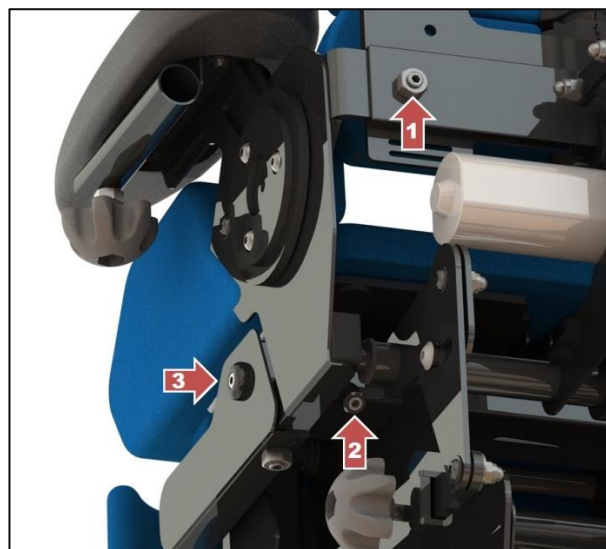

Fig. 2 Adjusting the width
The width of the seat can be adjusted using the knob (3) marked with a red arrow (fig. 2). The knobs are located on the right and left sides of the device. Their effect is independent of each other. This enables symmetrical and asymmetrical positioning of the user's body.
- a) loosen the securing bolts (1 and 2) on the back and bottom of the device using the allen key 4mm (fig. 2).
- b) turn the knob (3) marked with a red arrow using the allen key 4mm (fig. 2) to change the width of the left or right side of the device.
- c) tighten the securing bolts (1 and 2) on the back and bottom of the device (fig. 2).